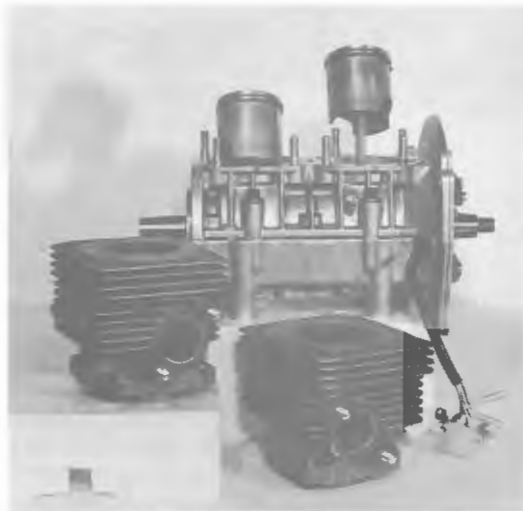

FIGURE 3-8 CYLINDERS REMOVED
m. Remove the four hold-down nuts securing each cylinder to crankcase. Remove cylinders to expose piston and connecting rod assemblies. Discard cylinder base gaskets. Figure 3-8).